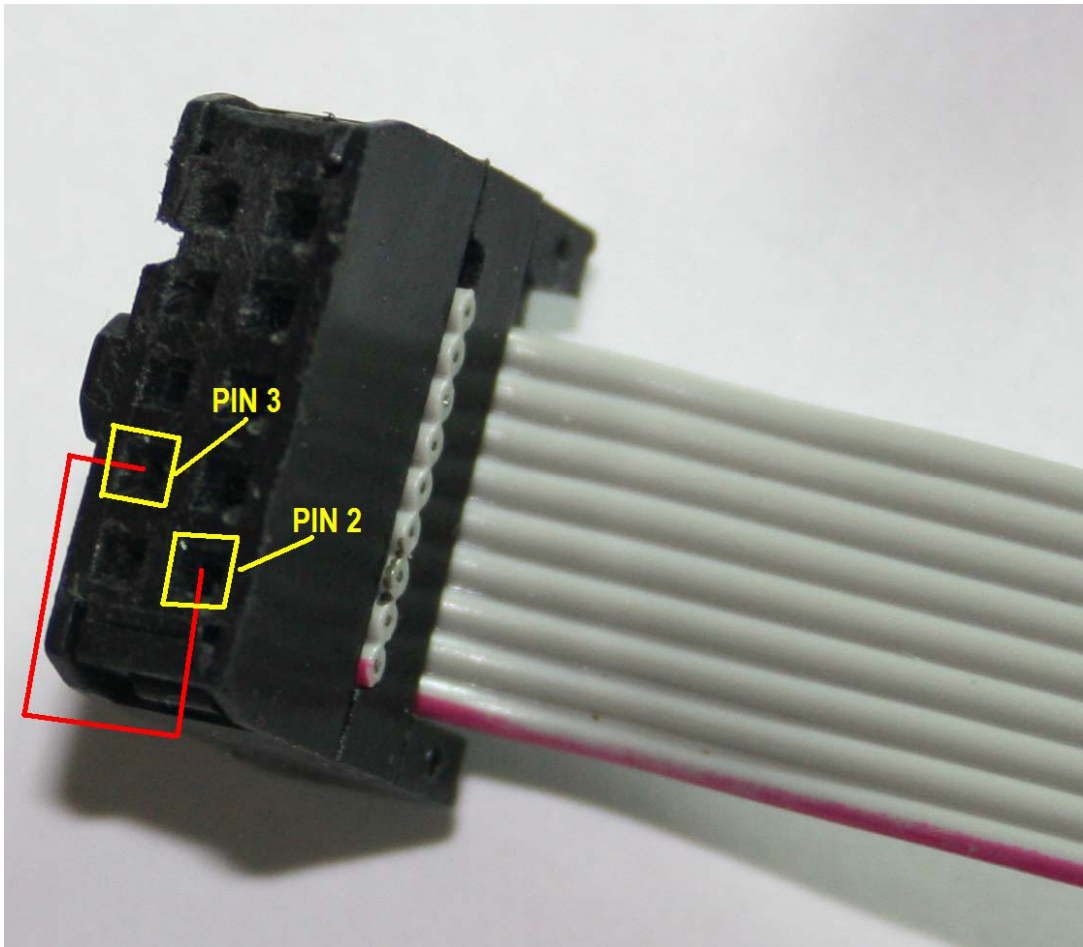

Figure 76. Serial Cable Loopback
1. Connect a wire across the TX and RX leads (Pins 2 and Pins 3) of the cable that plugs into the BeagleBoard (IDC Cable). **Figure 76** shows how this is done.